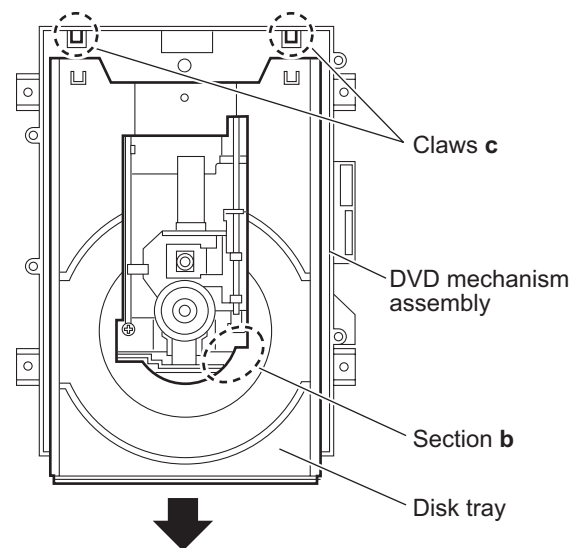

Fig.5
- (2) Take out the disc tray in the direction of the arrow while lifting the section **b**. (See Fig.5)
- (6) Push in the disc tray while lifting the section **b**. (See Fig.5)
- When pushing in the disc tray, push it until the position of the claw **c**. (See Fig.5)
- (7) Attach the DVD top cover with the four screws **C** to the DVD mechanism assembly.